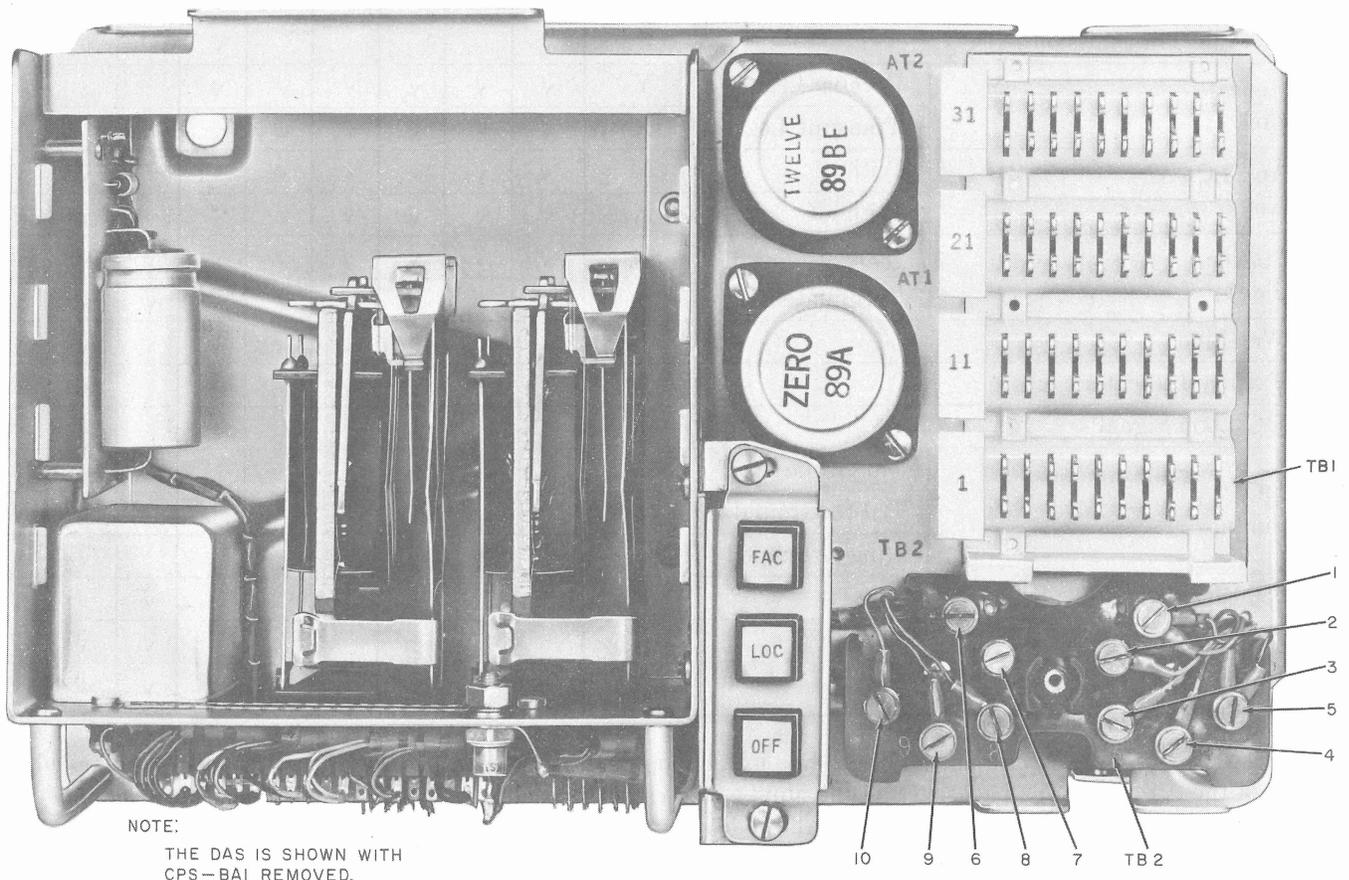

Fig. 1—Data Auxiliary Set 806A-Type—Terminal Designation
- (1) Connect the 81A test set across TB2-4 (DT1) and TB2-5 (DR1). Place test set switch in TONE TEST position. See Fig. 1 for location of TB2 and terminal designation.
- (2) Connect the 1013A handset across TB2-1 (DT) and TB2-2 (DR).